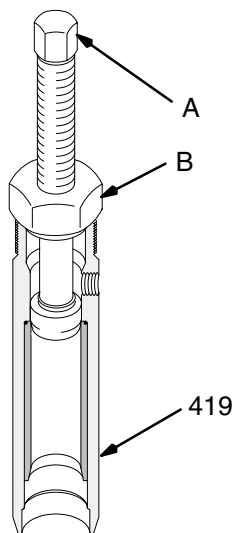

Fig. 29
- Remove the sleeve. Screw the large nut (B) of the tool into the top of the cylinder (419). Screw down the rod (A) to push the sleeve out. Remove the tool. See Fig. 29.